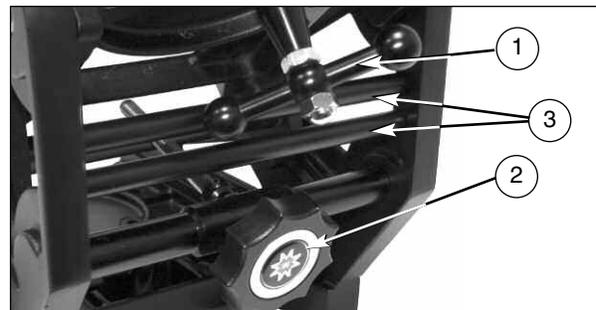

Fig. 4: Back view of the Ultrawedge: (1) T-bar; (2) Fine latitude control knob; (3) Steel reinforcement bars.
4. Insert the T-bolt (1, Fig. 4) through the center of the underside of the tilt plate and into the underside of the